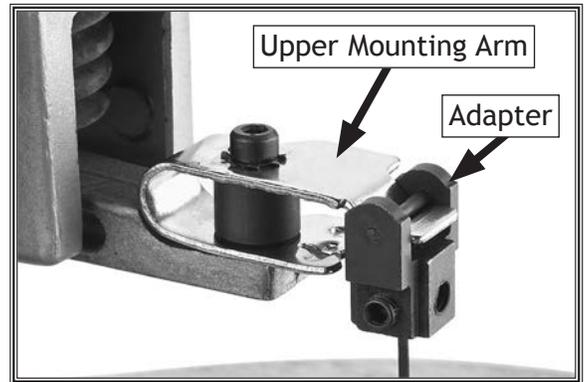

Figure 32. Blade adapter installed.
7. Slide one end of blade assembly through hold-down shoe, and place adapter over upper mounting arm (see Figure 32).